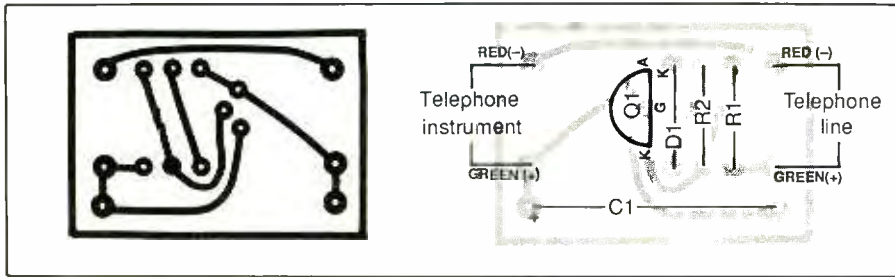

Fig. 4. Actual-size etching-and-drilling guide (A) and wiring diagram (B) for Extension Phone Lockout pc board.
Shown in (A) in Fig. 4 is the actual-size etching-and-drilling guide for the Extension Lockout device's printed-circuit board. When this board is ready to be populated, install and solder into place first the resistors, then the capacitors and zener diode and, finally, the silicon-controlled rectifier. Make sure C1, D1 and SCR1 are properly oriented before soldering their leads to the cop-